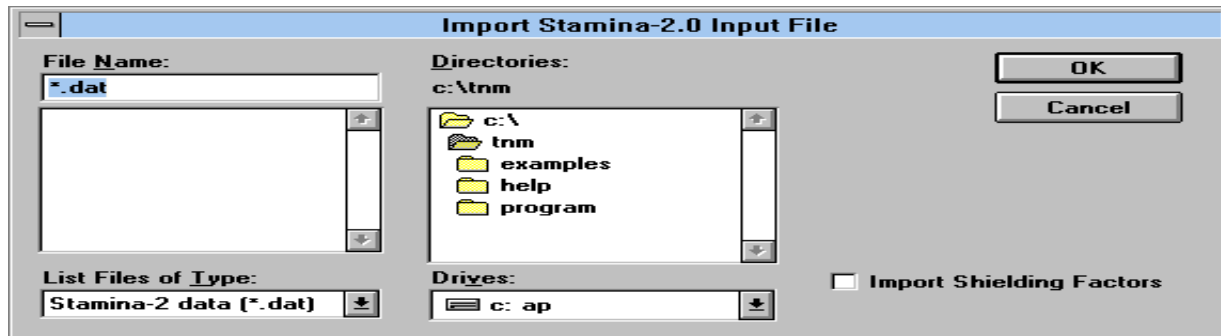

Figure 7. Import STAMINA 2.0-input file.
4.7.1 Import STAMINA 2.0-input file. This selection will allow you to import a STAMINA 2.0 input file into TNM (see Figure 7). Importing STAMINA 2.0 files is a completely automated process, but there are three items you should be aware of: (1) to import STAMINA shielding factors, be sure to select the check box in the import window; and (2) STAMINA alpha factors are not imported since TNM uses an entirely new methodology for computing ground effects (see Appendix D and Reference 1); and (3) files produced by modified versions of STAMINA 2.0 are not compatible with TNM's import function.